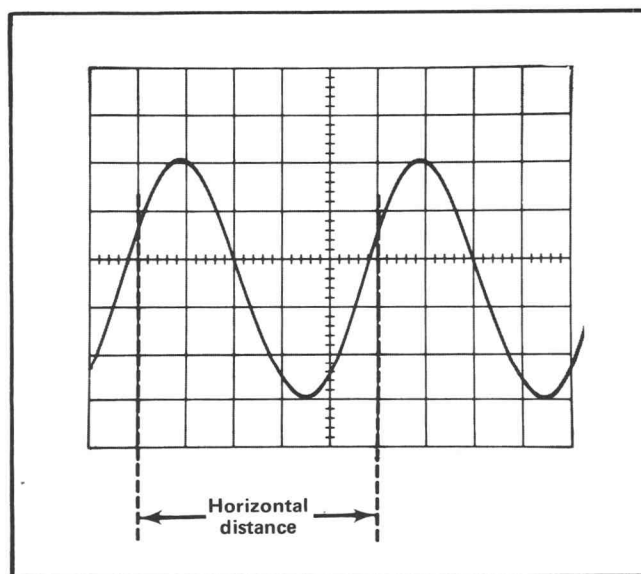

Fig. 2-13. Measuring the time duration between two points on a waveform.
5. Set the TIME/DIV switch to the fastest sweep rate that displays less than eight divisions between the time measurement points (see Fig. 2-13). (See the topic entitled Selecting Sweep Rate in this section concerning non-linearity of first and last divisions of display.)
Example. Assume that the horizontal distance between the time measurement points is five divisions (see Fig. 2-13) and the TIME/DIV switch is set to .1 ms with the magnifier off.
Example. The frequency of the signal shown in Fig. 2-13 which has a time duration of 0.5 millisecond is: